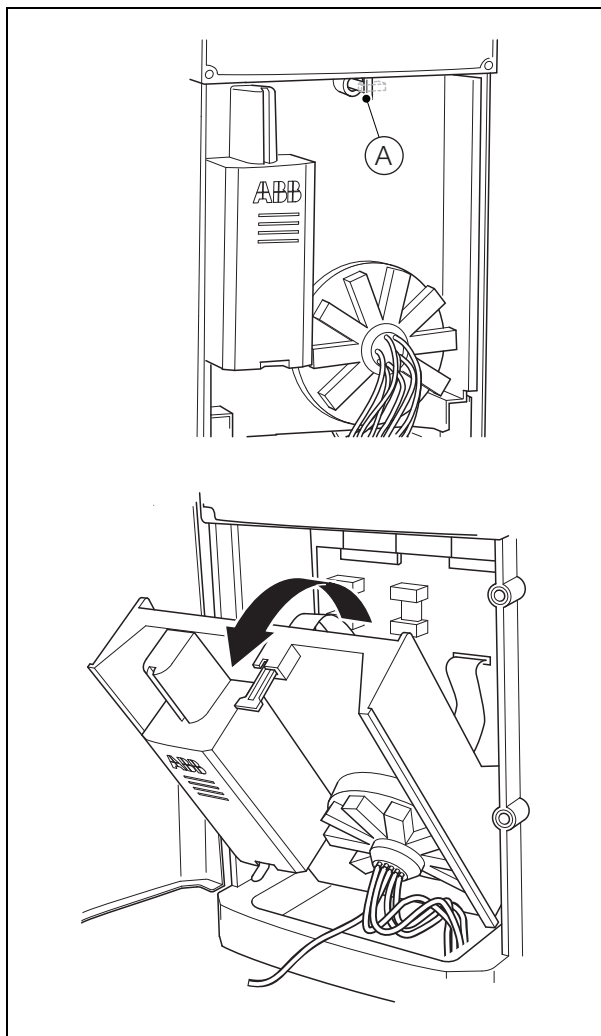

Fig. 13.8 Opening the Analytical Section
1. Referring to Fig. 13.8, turn handle (A) 1/4 turn clockwise, pull the analytical section forward and allow it to rest against its stops.
1. Referring to Fig. 13.8, raise the analytical section to the upright position and secure with handle (A).